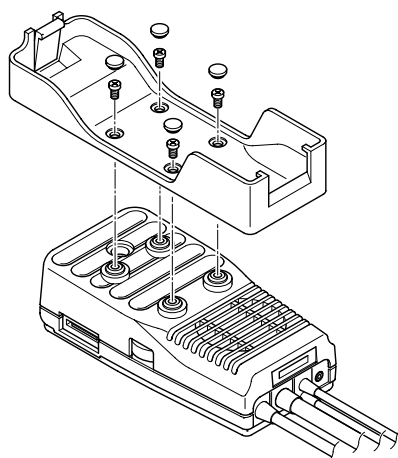

Figure 23: Holder removal
1. (Figure 23) Remove the holder from the handsfree unit (4 screws).